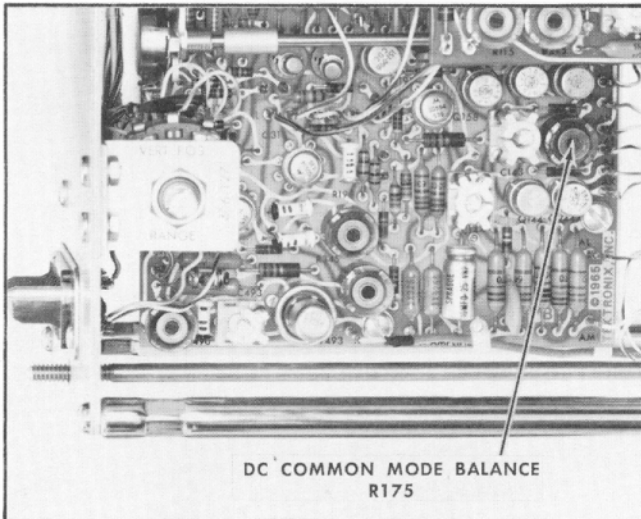

Fig. 6-28. Location of step 17 adjustment.
k. Check the X-Y display for tilt. Vertical deflection of the tilt should not exceed 4 cm (see Fig. 6-26b). If excessive (see Fig. 6-26c for examples), adjust the DC COMMON MODE BALANCE control (R175; see Fig. 6-28) for minimum vertical deflection. The 4-cm requirement at 100 μ V/cm is equivalent to a CMRR of 50,000:1 ($4 \times 100 \mu\text{V} = 400 \mu\text{V}$; $20 \text{ V} \div 400 \mu\text{V} = 50,000$).